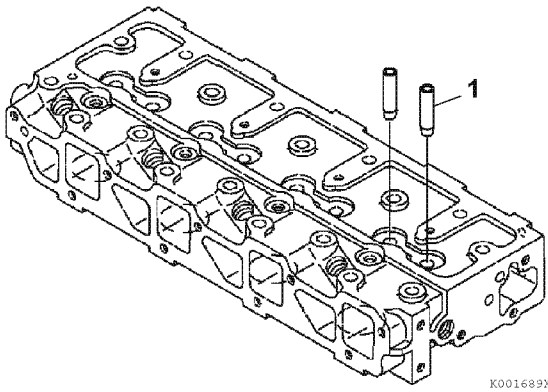

Figure 6-27
2. Immediately after removing the valve guides from the freezer, insert the valve guides (Figure 6-27, (1)) in their proper positions.